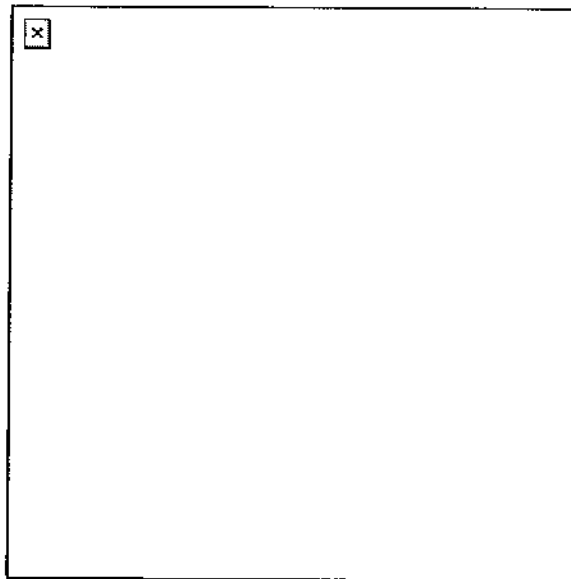
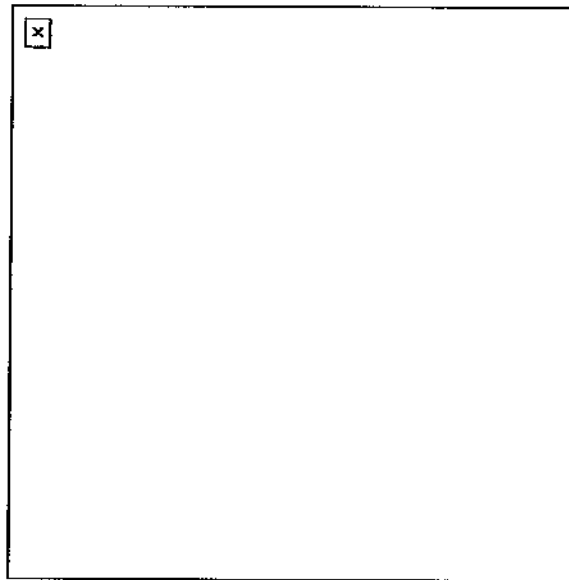

Figure 1. Sliding scale on sight.
Figure 2. Lowering the bipod.
- a. Elevation: Using the elevation knob, index the known range (300 meters) to the target. Center the peep sight by rotating it clockwise (right) as far as it will go, then rotate it counterclockwise (left) 5 clicks (Figures 1 and 2).
NOTE: The elevation range scale wheel has range settings from 300 to 1,000 meters. The even numbered range settings are on the left side of the scale wheel and the odd numbered range settings are on the right (Figure 1 and Figure 2).
- b. Windage. Rotate the windage knob toward the muzzle until the peep sight is completely to the right, then rotate the windage knob toward the buttstock 12 clicks to the left. This will place the peep sight in the approximate center of the sight (Figures 1 and 2).